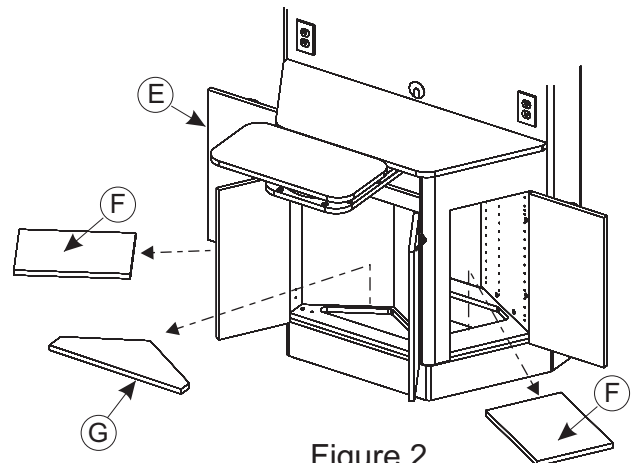

Figure 2
Open all Doors (E) and remove the Bottom Covers (F & G) (see Figure 2). You may need to tilt the bottom covers to remove from door opening.